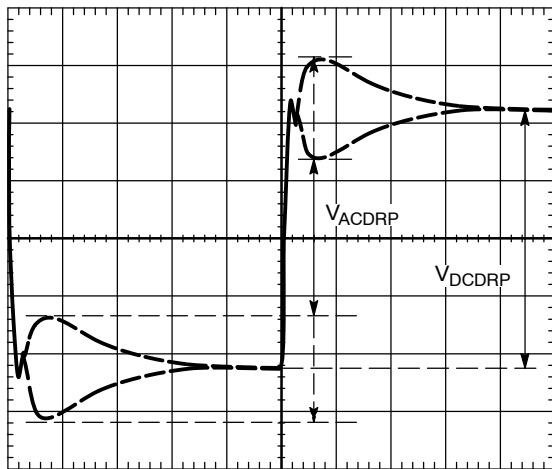

Figure 28. AC Load Line Waveform
5. The resulting waveform will be similar to that shown in Figure 28. Use the horizontal cursors to measure  $V_{\text{ACDRP}}$  and  $V_{\text{DCDRP}}$ , as shown in Figure 28. Do not measure the undershoot or overshoot that occurs immediately after the step.